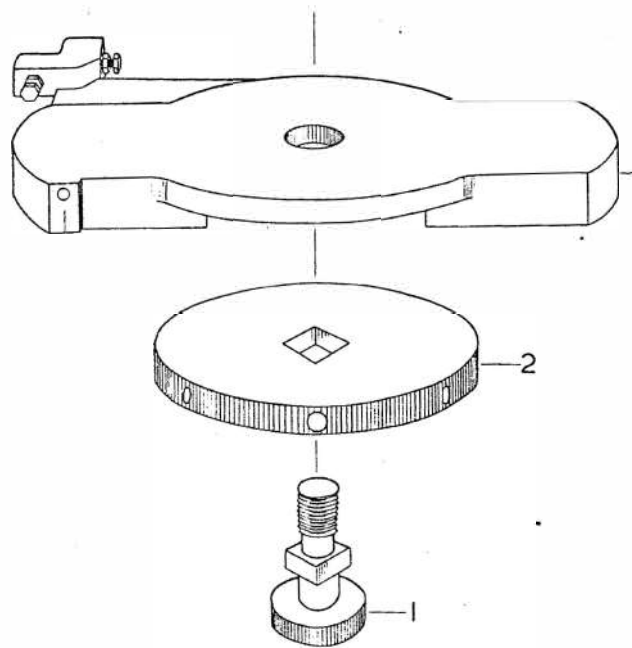

Fig. 8
Place the copyholder bolt (1, Fig. 8) in the Tee-slot of the sliding head and fit the clamp ring (2) over the bolt, locating on the square shoulder. Position the copyholder slide plate (3) over the copyholder bolt and clamp ring, with the two pre-set stop screws away from the operator, and locate the tenons in the Tee-slot. Fit the copyholder to the slide plate, with the stop faces on the under edge of the copyholder on the same side as the two pre-set stop screws, and engage the threads of the copyholder and bolt by rotating the clamp ring.